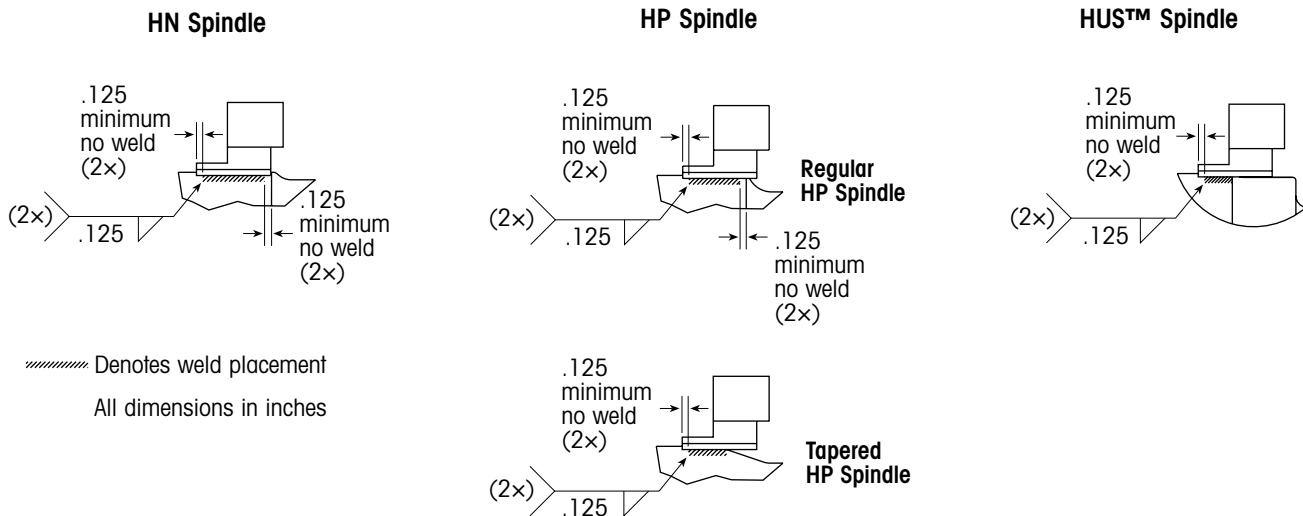

Figure 4. Welding details
- When ABS bracket location and sensor clearance are verified, weld the ABS bracket to the axle with a 1/8-inch (3mm) fillet weld. Refer to figure 4 for weld placement.